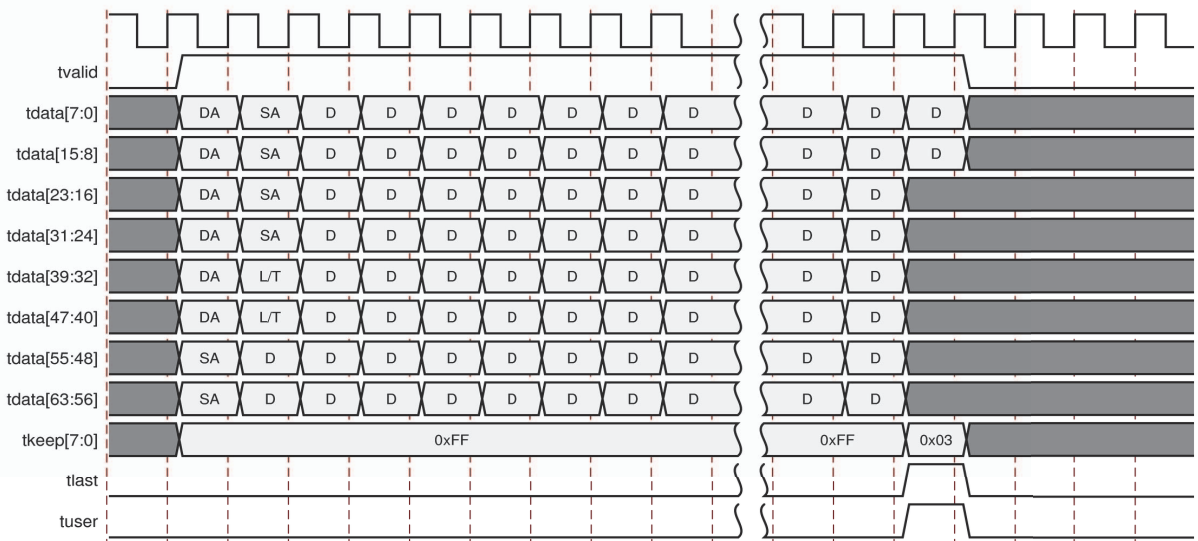

Figure 2-12: Frame Reception with Errors – 64-bits
- An explicit error in which a frame transfer is aborted by asserting `tx_axis_tuser` High while `tx_axis_tlast` is High (See Figure 2-12).
The case of an unsuccessful frame reception (for example, a runt frame or a frame with an incorrect FCS) is shown in Figure 2-12. In this case, the bad frame is received and the signal `rx_axis_tuser` is asserted to the client at the end of the frame. It is then the responsibility of the client to drop the data already transferred for this frame.